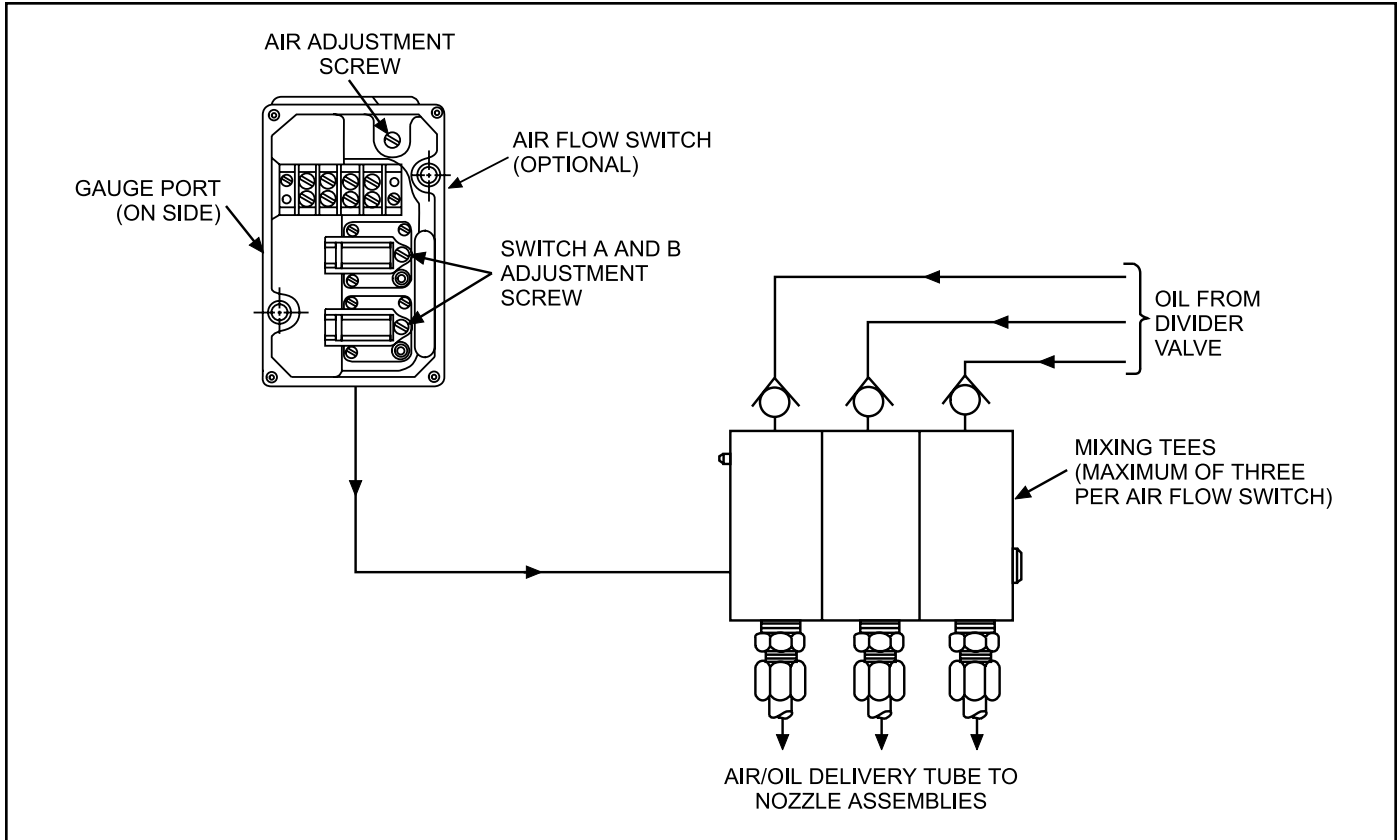

Figure 2-10. Air Flow Switch and Mixing Tees
2.3.9.2 Air Flow Switches and Mixing Tees. Figure 2-10 represents a typical arrangement of air flow switches and mixing tees. Inlet ports on the mixing tees are 1/8-27 NPSF. Both inlet and outlet ports on the air flow switches are 1/8-27 NPSF Tubing from the air package to the air
2.3.9.4 Air Flow Switch Adjustment. When pneumatic connections have been completed the air flow switch should be adjusted to the specific installation. Refer to Figure 2-10 for adjustment screws mentioned in the following adjustment procedure.